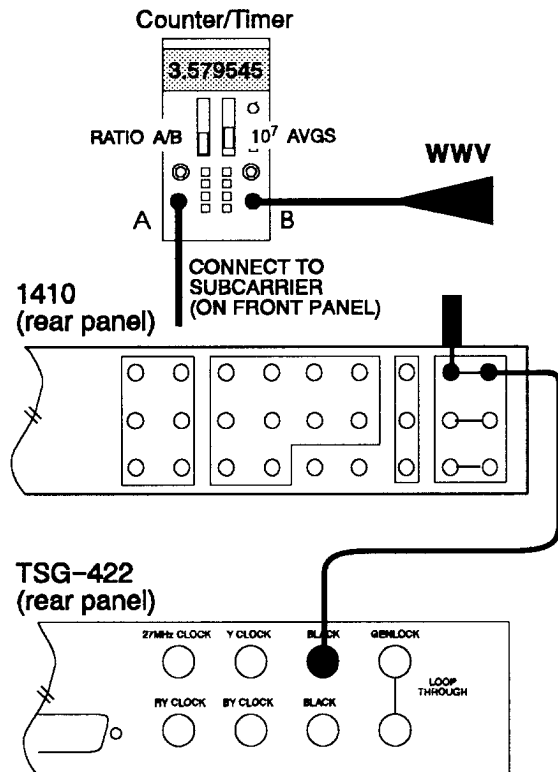

Fig. 5-6. Setup to check the burst frequency.
- a. Connect the equipment as shown in Fig. 5-6.